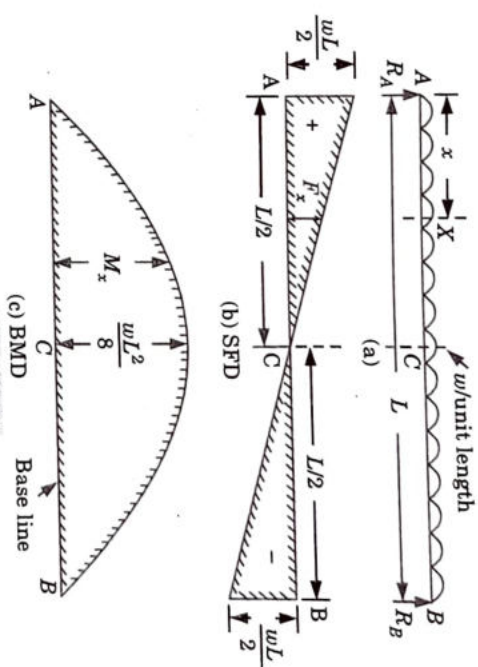

Fig. 1.21.1.
- Fig. 1.21.1 shows a beam AB of length L simply supported at the ends A and B and carrying a uniformly distributed load of w per unit length over the entire length.
The shear force diagram is drawn as shown in Fig. 1.21.1(b).